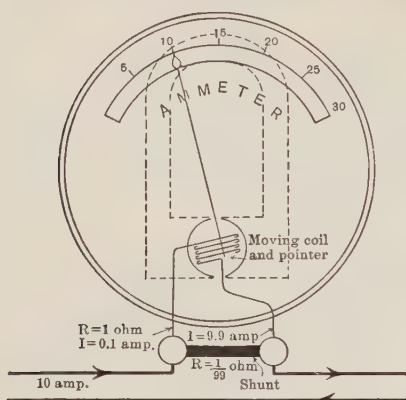

FIGURE 392. — RESISTANCES AND CURRENTS IN AN AMMETER.
**259. Current in Divided Circuits.** — Parallel circuits are often called divided circuits and sometimes multiple circuits. When the resistances are equal, the same current will flow through each; this current will be the total current divided by the number of resistances. When there are two parallel paths, each is spoken of as a *shunt* to the other. Thus, in the ammeter (§ 246), we have called the low resistance connecting the terminals a shunt to the movement. If the movement has a resistance of 1 ohm and the shunt has a resistance of  $\frac{1}{99}$  ohm (Figure 392), then the conductance of the shunt is 99 times as great as that of the movement and 99 parts of the current will pass through the shunt and 1 part through the movement. There are